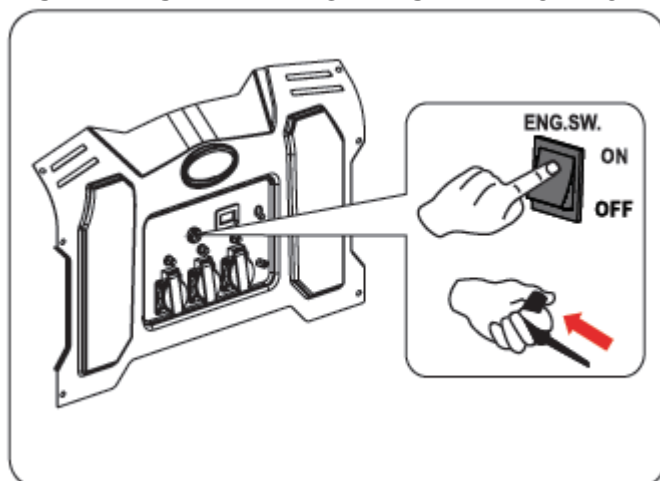

Fig.13 - Recoil Start
- For **manual start**, turn the engine "ON/OFF" switch to the "ON" position. (See Fig.13) or turn the engine "START/ON/OFF" switch to the "ON" position. (see Fig.12-2). Pull the recoil handle (starter cord) slowly until resistance is felt, then pull rapidly.